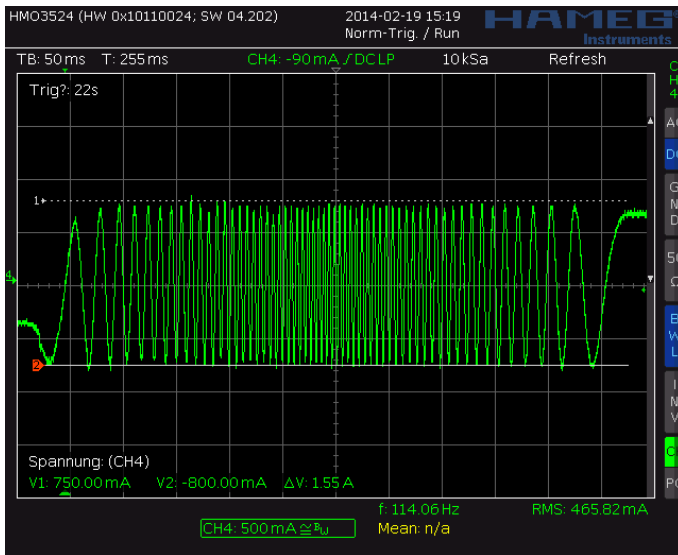
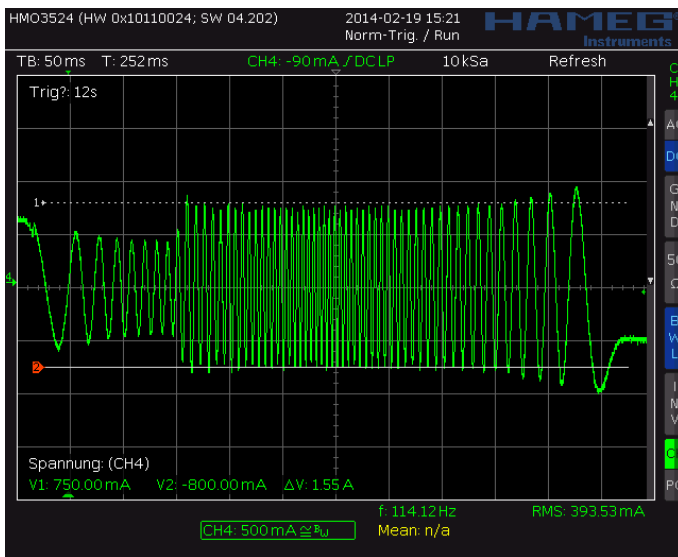
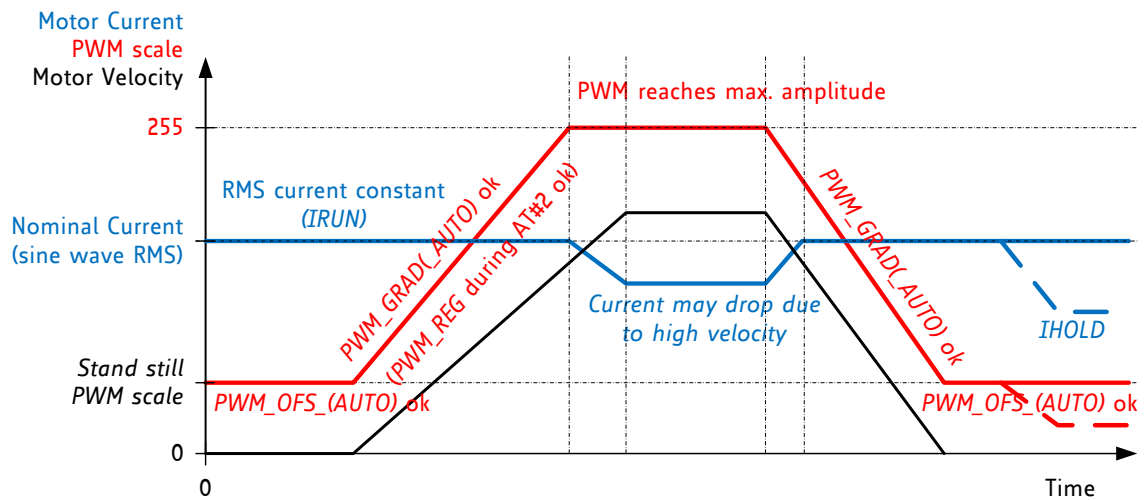

Figure 7.3 Scope shot: good setting for PWM_REG
Figure 7.4 Scope shot: too small setting for PWM_REG during AT#2
Figure 7.5 Successfully determined PWM_GRAD(AUTO) and PWM_OFS(AUTO)
In StealthChop voltage PWM mode, the autoscaling function ($pwm_autoscale = 1$, $pwm_auto_grad = 1$) regulates the motor current to the desired current setting. Automatic scaling is used as part of the automatic tuning process (AT), and for subsequent tracking of changes within the motor parameters. The driver measures the motor current during the chopper on time and uses a proportional regulator to regulate PWM_SCALE_AUTO in order match the motor current to the target current. PWM_REG is the proportionality coefficient for this regulator. Basically, the proportionality coefficient should be as small as possible in order to get a stable and soft regulation behavior, but it must be large enough to allow the driver to quickly react to changes caused by variation of the motor target current (e.g. change of $VREF$). During initial tuning step AT#2, PWM_REG also compensates for the change of motor velocity. Therefore, a high acceleration during AT#2 will require a higher setting of PWM_REG . With careful selection of homing velocity and acceleration, a minimum setting of the regulation gradient often is sufficient ($PWM_REG=1$). PWM_REG setting should be optimized for the fastest required acceleration and deceleration ramp (compare Figure 7.3 and Figure 7.4). The quality of the setting PWM_REG in phase AT#2 and the finished automatic tuning procedure (or non-automatic settings for PWM_OFS and PWM_GRAD) can be examined when monitoring motor current during an acceleration phase Figure 7.5.